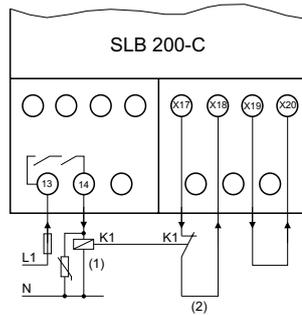

Fig. 4
**Key (Fig. 4)**
- (1) Contactor
- (2) Contactor control